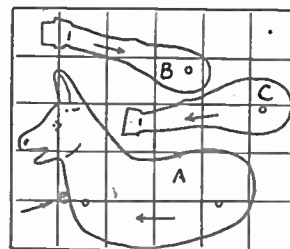

Fig. 1
Parts for the donkey are shown in Fig. 1 drawn over 1in. squares. Copy the squares full size on to a sheet of thin white paper; it will then be an easy matter to trace the shapes of the various parts of the animal's anatomy. Do this as accurately as possible. The body part (A) is then traced through carbon paper on to a piece of ½in. thick wood, deal will serve, and be careful that the grain of the wood lies in the direction of the arrows. This applies, of course, to parts (C) and (D) also, and is of